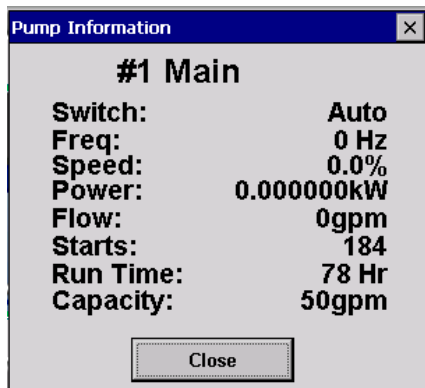

Figure 12: Pump Information
- a. By tapping , an enhanced screen shown in **Figure 12** will appear with more detailed information.